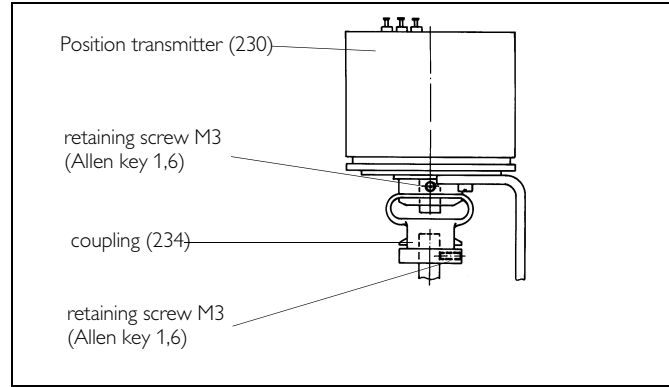

Fig. 8. Moving the coupling in rough adjustment
2. Loosen the upper retaining screw of the coupling (234), see Fig. 8.